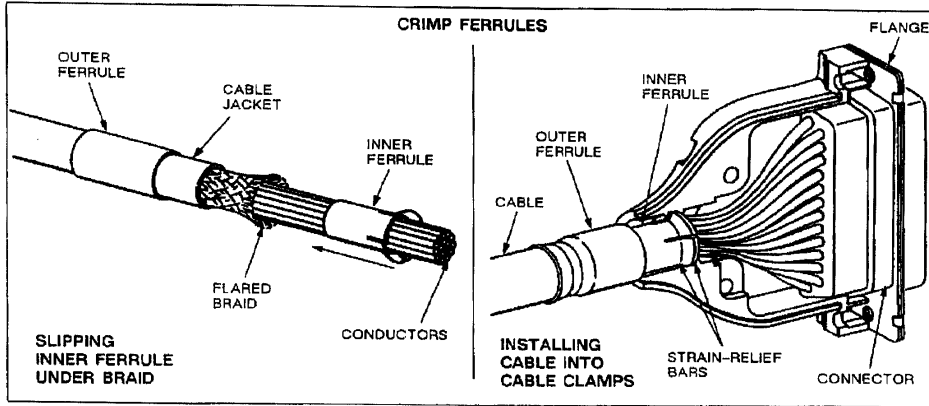

Fig. 9
6. CRIMP FERRULE ASSEMBLY (Figure 9)